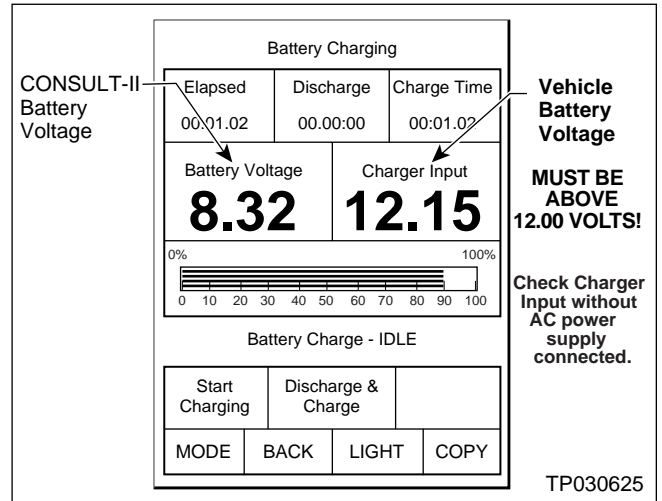

Figure 8
3. Check the C-II “Charger Input” reading (see Figure 8).